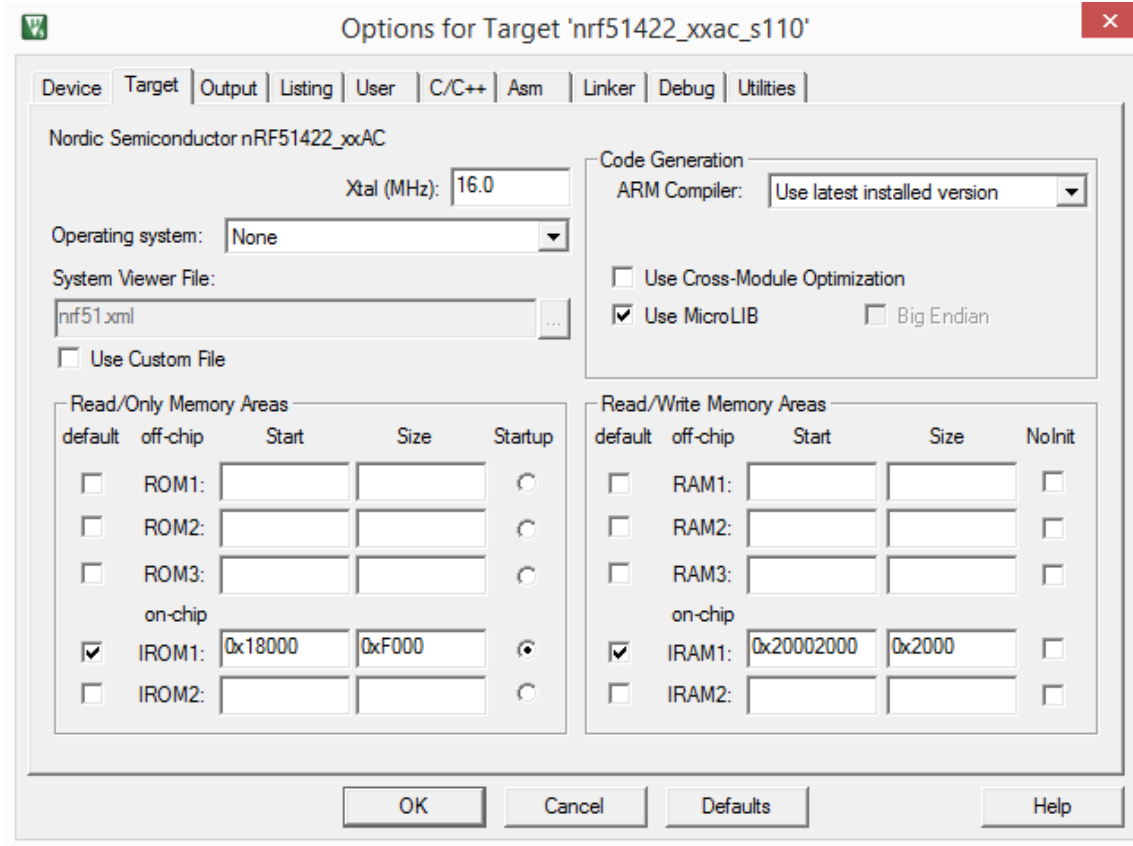

Figure 6- Keil Flash Tools Target window
3. In the same 'Configure Flash Tools' window, go to the 'Target' tab and change the settings to match Figure 6 below
**Note:** The memory locations in Figure 6 are based on the size of the S110 SoftDevice. If a different SoftDevice is used, these values will need to be adjusted accordingly.